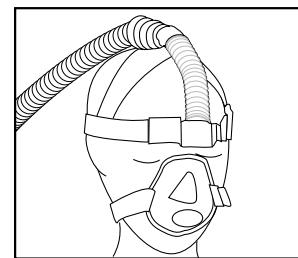

Figure 7
- Position mask loosely on face. Adjust headgear straps so mask is snug and comfortable **Figure 7**.